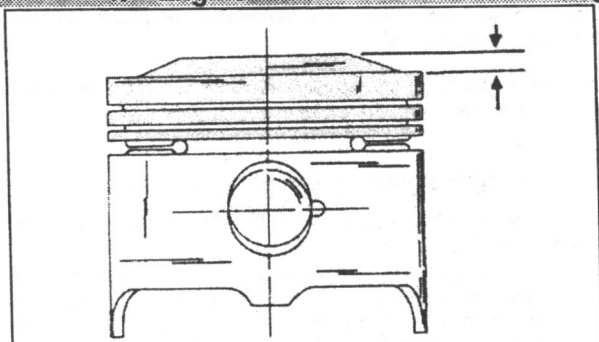

Fig. 1.66. — Sectional view of a piston as fitted to the earlier engine. Pistons for later engines have a different piston crown.
- Pistons of the 2.0 litre XN1-TA engine were modified, i.e. the pistons of an older engine cannot be fitted to the later engine. The same applies visa versa. Fig. 1.66 shows a sectional view of a piston. The dimension between the arrows shows to which engine the piston is fitted.